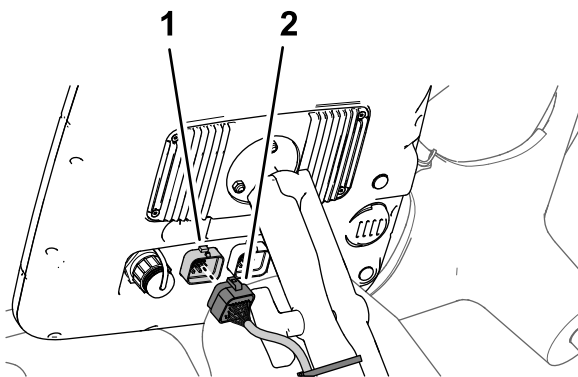

Figure 8
1. Remove the 26-socket connector of the data harness from the 26-pin connector of the sprayer display (Figure 8).